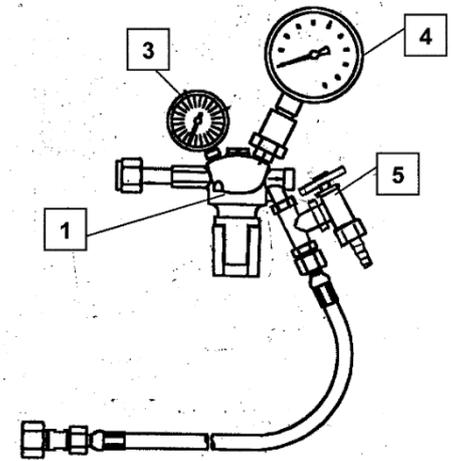

Fig. 17
The equipment (Fig. 17) includes a pressure reducer unit (1) with setting handle and a manometer (3) for the pressure of the SF₆ bottle and a manometer to set the pressure (4), a T-piece with angle-type non-return valve (5) and hose connection with 5 m pressure hose with DILO couplings DN 8 and DN 20 (optional)
Dew point measurements are carried out with corresponding devices, the measuring probe of which has to be placed in the flowing gas stream. As gas has to be refilled in any case, a mobile gas-recycling installation is an obvious choice, into which the gas of the bushing is returned by using the refilling and release equipment (Fig. 2.6.3, Fig. 17). To this tube the measuring value recorder is connected to carry out the measurement in the released gas stream.